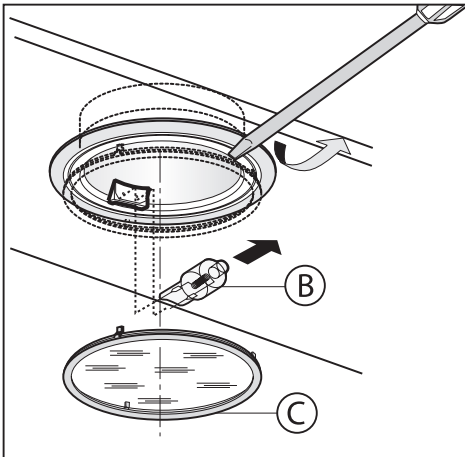

Fig.9
• Replacing halogen light bulbs (Fig.9):